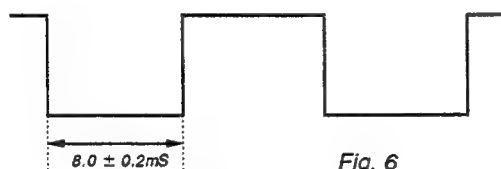

Fig. 6
- Connect the oscilloscope probe to IC502 Pin 7, then adjust **V DELAY** so that the waveform is as in Fig. 6.